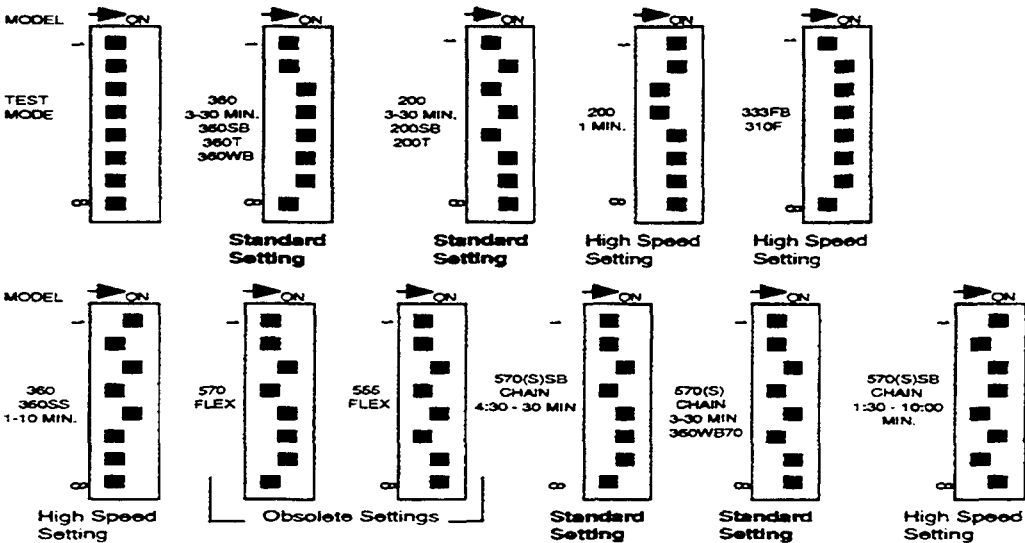

FIGURE 2
1. Disconnect the power to the conveyor control by turning the conveyor switch to the "off" (0) position and additionally by turning off the main power disconnect to the oven.
6. Set the switches on the control to "diagnostic mode" in Figure 2.
8. Set the mode switches back to the correct settings for the oven type and control version (see switch setting instructions in Figure 2).
To assist the service technician, both controls feature built-in diagnostic software. Most of these diagnostic routines are accessed by setting the dip switches to the test mode setting and then by powering up the conveyor control. Also, certain conditions can be diagnosed by observing the red LED during normal operating conditions. Refer to figure 2 to identify the control and test mode.